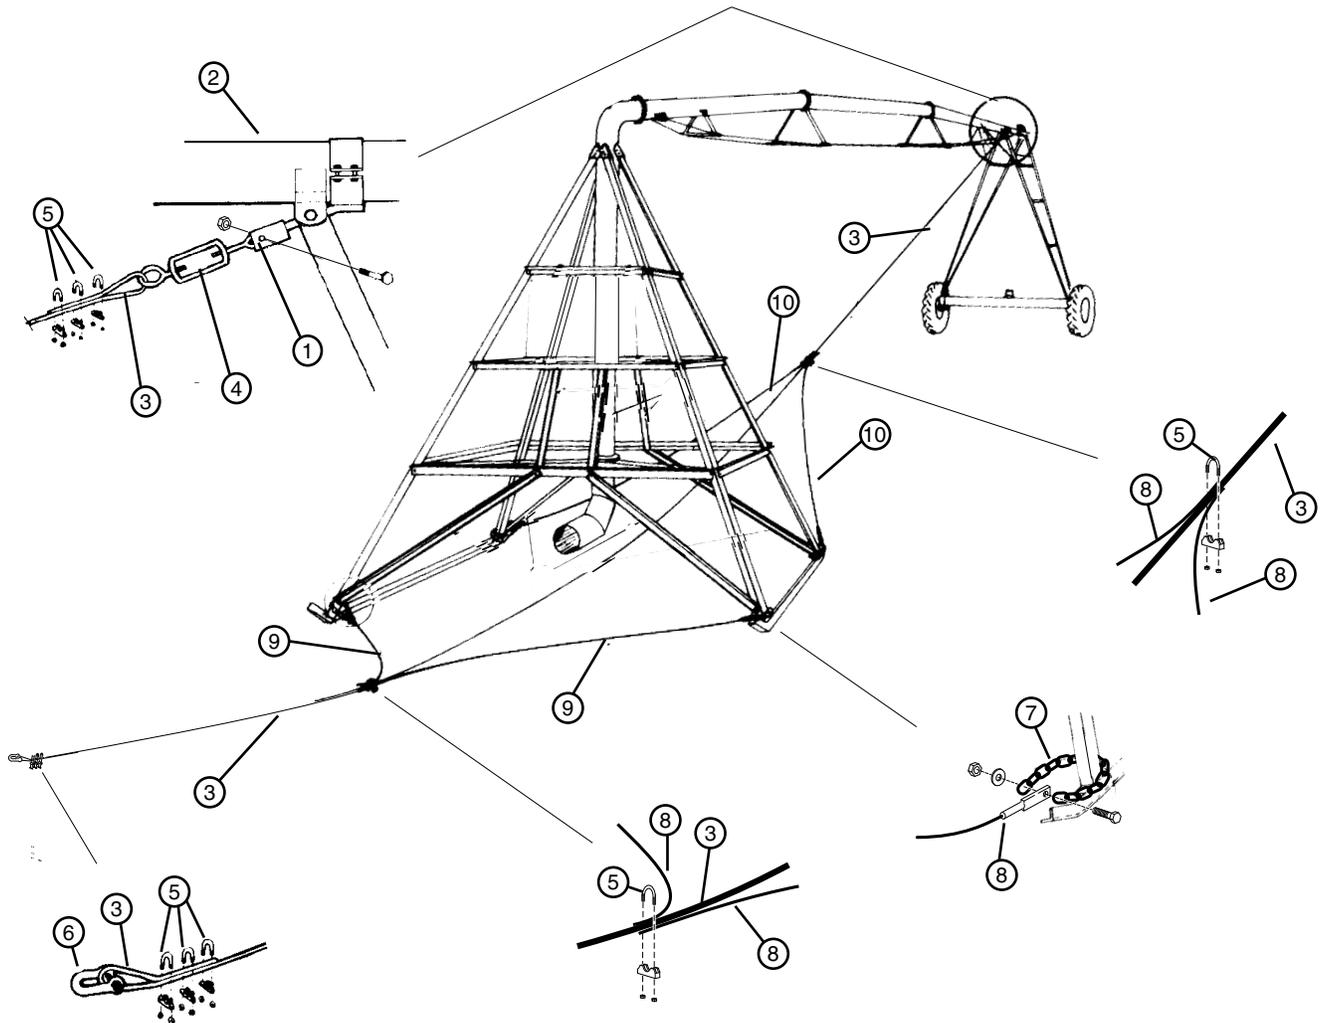

Figure 34-1 1. Tow Cable Attachment Bracket 5. 1/2 in Cable Clamp 9. Leading Trail Cable
5. Install the tow cable attachment bracket on the span pipe above the drive unit. See figure 34-1.
6. On one end of 1/2 in (12.7 mm) tow cable, extend 2 ft (610 mm) of cable through one of the eye bolts on turnbuckle, then clamp tow cable together with three 1/2 in (12.7 mm) cable clamps. See figure 34-1.
7. Bolt the other eye bolt on turnbuckle to the tow cable attachment bracket. See figure 34-1.
8. On the other end of 1/2 in (12.7 mm) tow cable, extend 2 ft (610 mm) of cable through a clevis and clamp with three 1/2 in (12.7 mm) cable clamps. See figure 34-1.
9. Wrap chains around the bottom of each pivot leg, then bolt a pivot trail cable to each chain. See figure 34-1
- Adjust the leading trail cables on the tow cable, so that while towing, the leading ends of pivot skids raise approximately 4 in (102 mm) to prevent the skids from digging into the ground. See figure 34-1.
- Adjust the trailing trail cables on the tow cable, so that while towing, the trail cables are taught. This will reduce the wallowing action of the skid pivot. See figure 34-1.